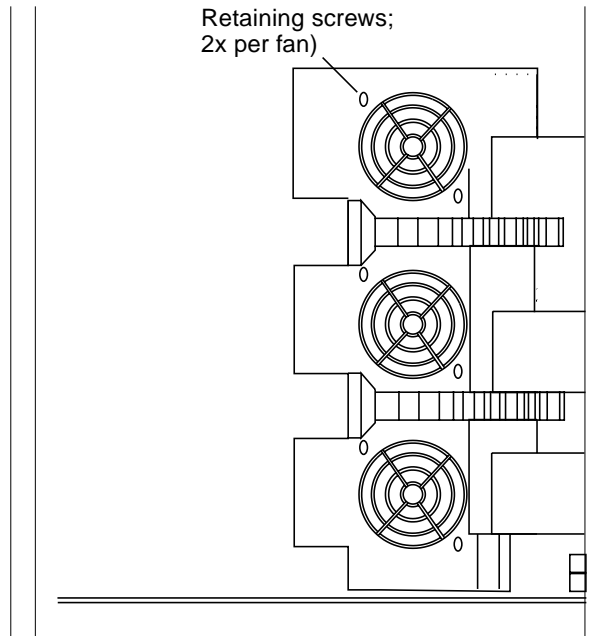

FIGURE 6-39 HDSA Rear Tray Fans
5. Remove the two retaining screws on the fan. See FIGURE 6-39.